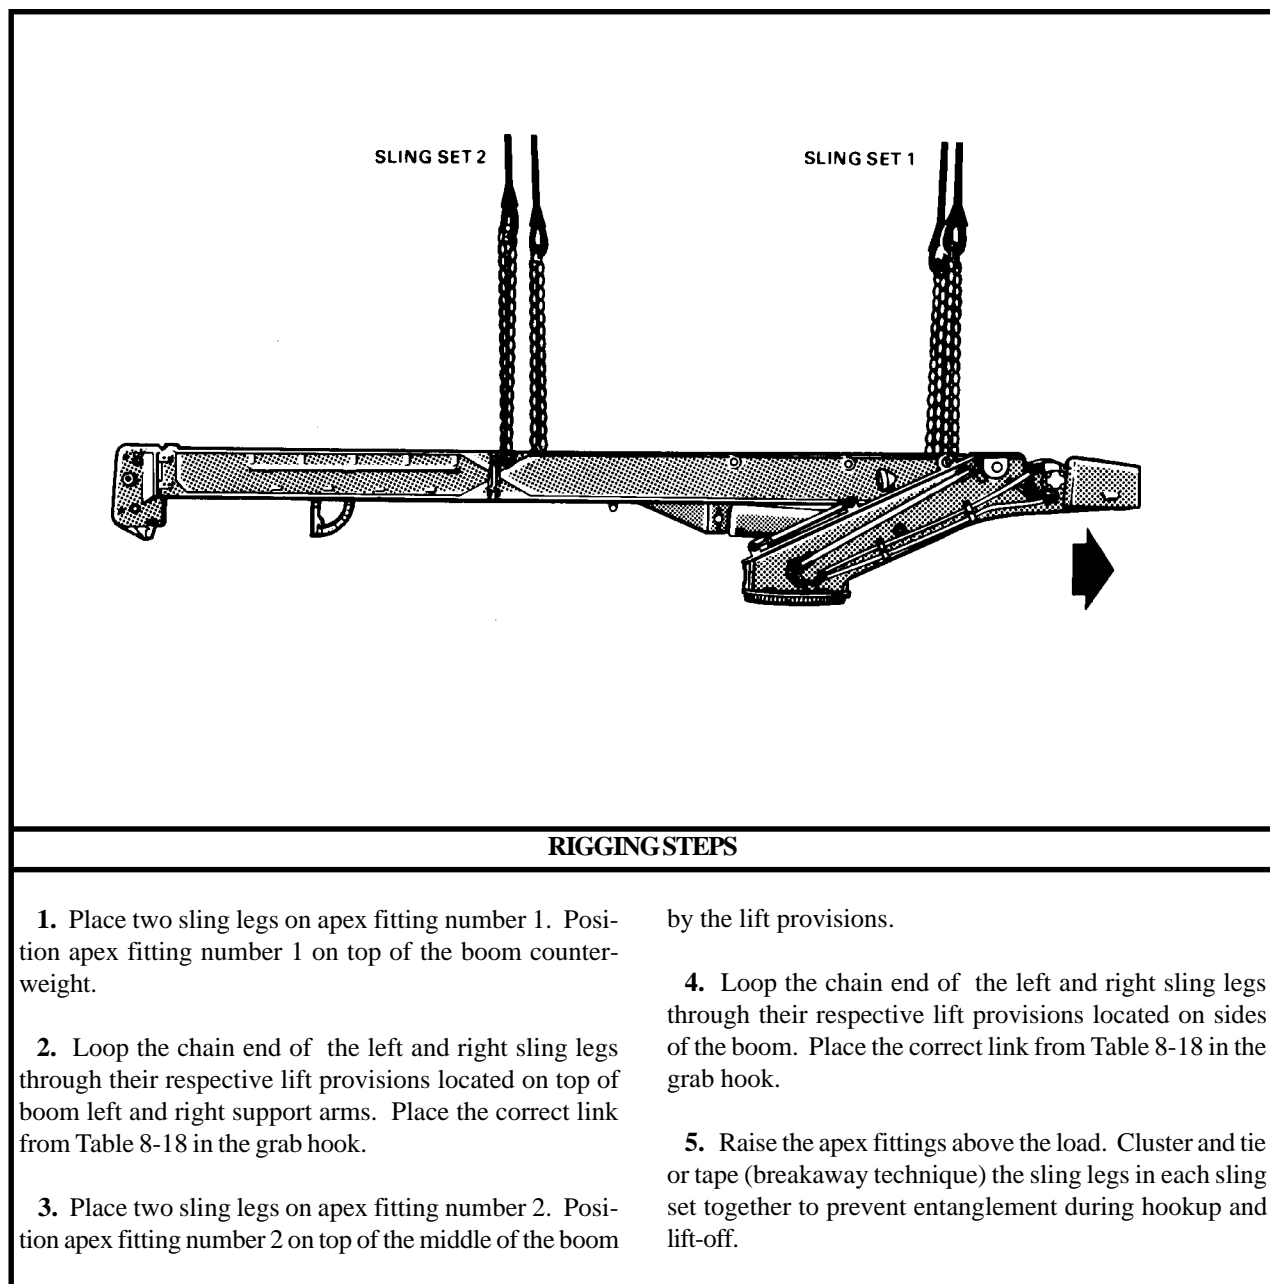

Figure 8-18. LRT-110, 7 1/2-Ton Crane (Boom)
(2) **Rigging.** Rig the load according to the steps in Figure 8-18.
(4) **Derigging.** Derigging is the reverse of the preparation and rigging procedures in steps d (1) and d (2).